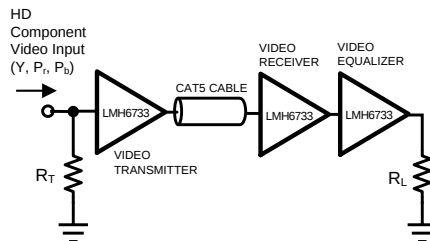

Figure 39. CAT5 High Definition Video Transmission
The LMH6733 can be used to send component 1080i High Definition (HD) video over CAT5 twisted-pairs. As shown Figure 39, the LMH6733 can be utilized to perform all three video transmitter, video receiver, and equalization circuitry. The equalization circuitry enhances the video signal to accomodate for the CAT5 attenuation over various cable lengths. Refer to application note AN-1822 for more details regarding this application.